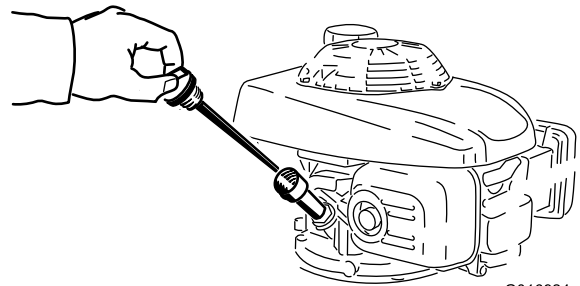

Figure 26
- Retirez la jauge (Figure 26).